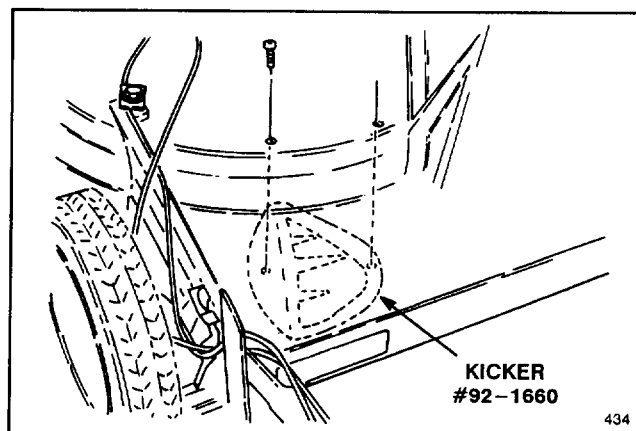

Figure 8
8. **HAND PUSH MODELS ONLY**—Position kicker #92-1660 as shown in Figure 8. Repeat step 5 to secure kicker to deck.